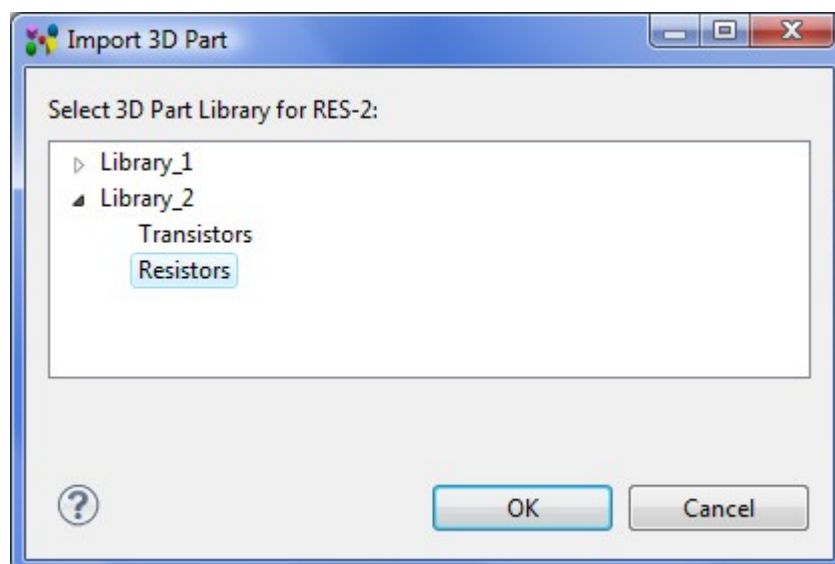

Figure 1. Import 3D Part wizard page with library hierarchy
- Right click and select the **Add 3D Part to Library** item in the appeared context sensitive menu. The **Import 3D Part** wizard page appears on the screen (see Figure 1) with the 3D Part library hierarchy (libraries with categories, situated beneath):